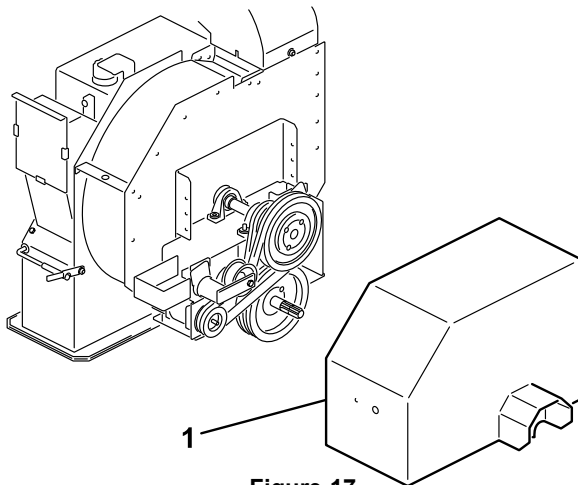

Figure 17
1. Loosen the bolts and nuts securing the drive shield to the impeller housing (Figure 17) and remove the shield.